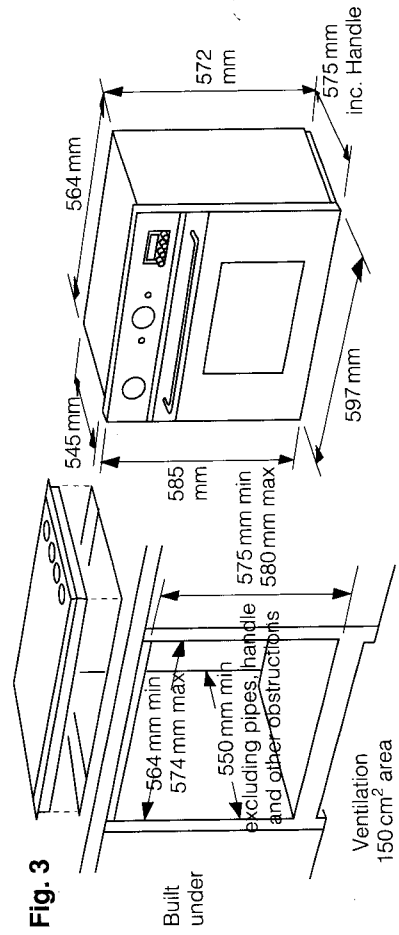

Fig. 3
- The oven unit housing cabinet dimensions must comply with Fig. 3 and Fig. 4. (See pages 6 and 7.)